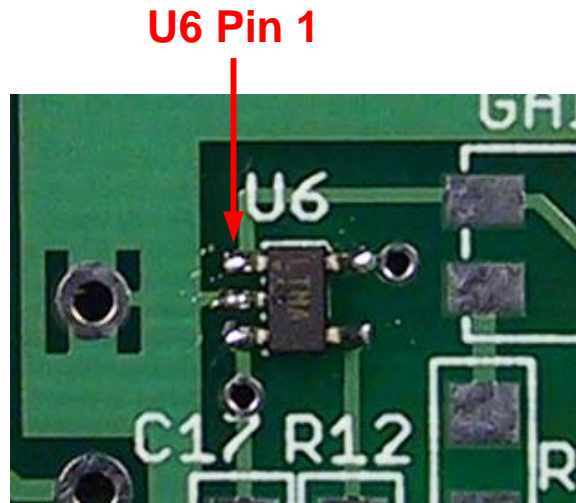

Figure 11. U6 Location
- ❑ Remove U6, LT1395CS5 from Bag 2. This IC is marked LTMA. Position it over the pads of U6 as shown in **Figure 11** and tack down pin 1. Make sure all of the pins are aligned with the pads and solder pin 4, diagonally opposite pin 1. Solder the remaining pins.